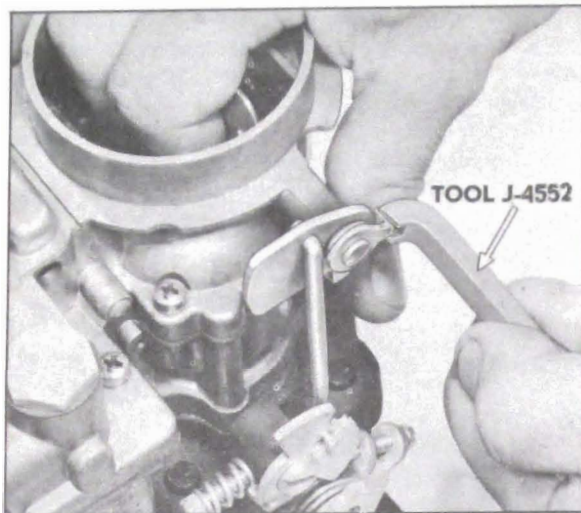

Figure 3-27—Adjusting Fast Idle Cam Clearance
2. If clearance is other than .020", bend lug on outer choke shaft lever as required to correct using tool J-4552 or needle-nose pliers. See figure 3-27.